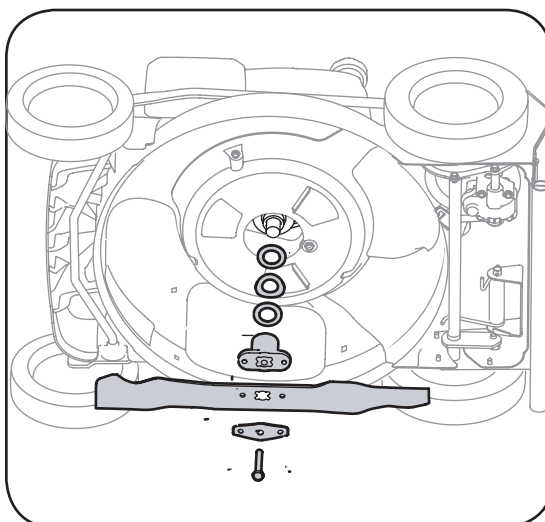

Figure 5-12: Reinstall the remaining hardware.
21. Lightly lubricate the inside of the blade adapter and reinstall the washers, blade adapter, blade, and blade bell support in the correct order. See Figure 5-12 (Refer to Blade Care section). Tighten the hex bolt to 450-600 in. lbs. torque.